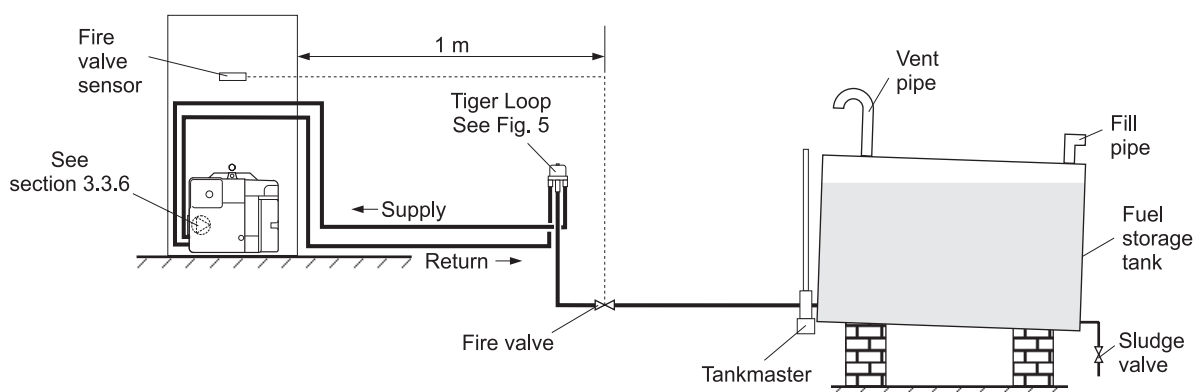

Fig. 4 - Tiger loop system
3.3.5 Tiger Loop system - (See Figs. 4, 5)
- 2 The Tiger Loop is connected close to the boiler as a two pipe system (omitting the non-return valve) as shown in Fig. 4.